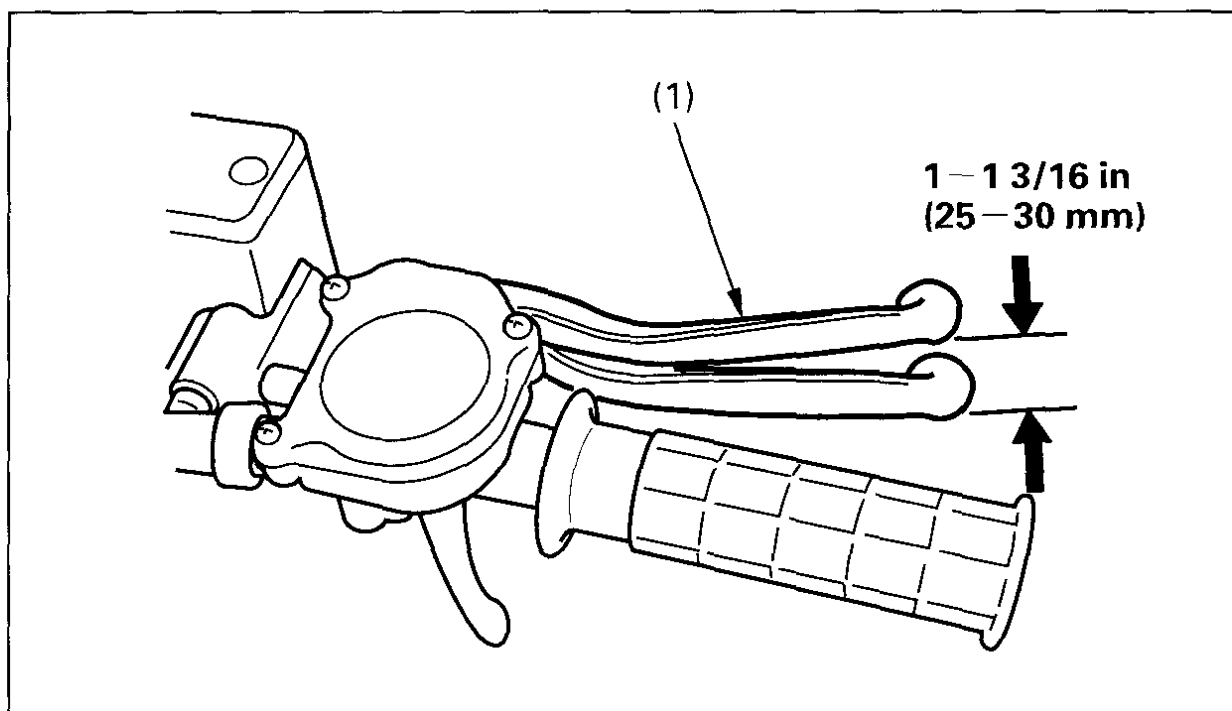

Fig. 4-24
1. Measure the distance the brake lever (Fig. 4-24) moves before the brakes start to take hold. Free play, measured at the tip of the front brake lever (1) should be: